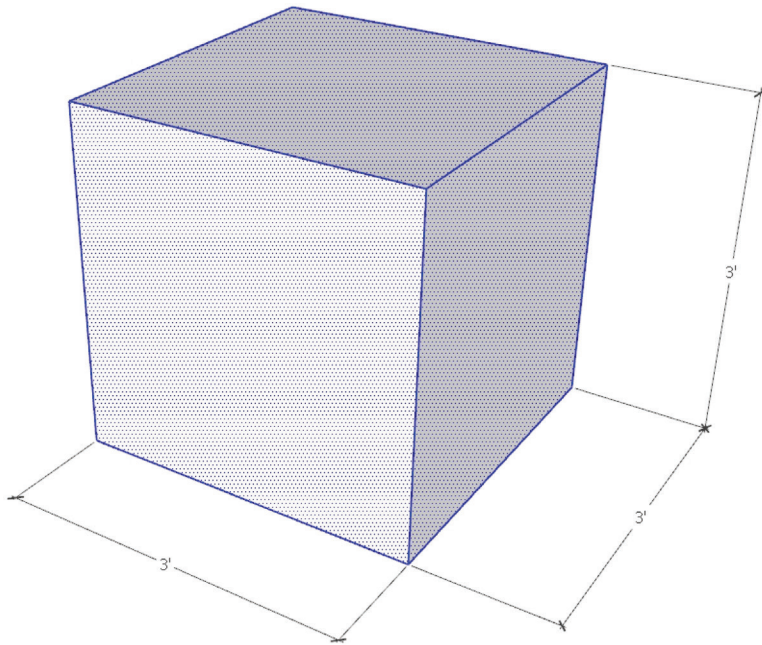

Figure 4.5 Triple-Click.
9. Triple-click the left mouse button over one of the faces or edges of the cube. You will notice that all faces and edges are now highlighted in blue, as shown in Figure 4.5.